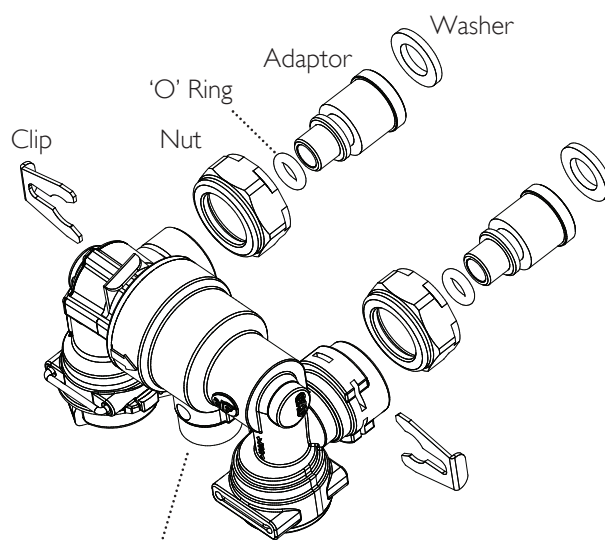

Fig. 2
• Fit an 'O' ring to the male end of each adaptor. Pass each adaptor through one of the nuts as shown (Fig. 2).
• Insert the adaptors into the body of the link and secure using the clips (Fig. 2)